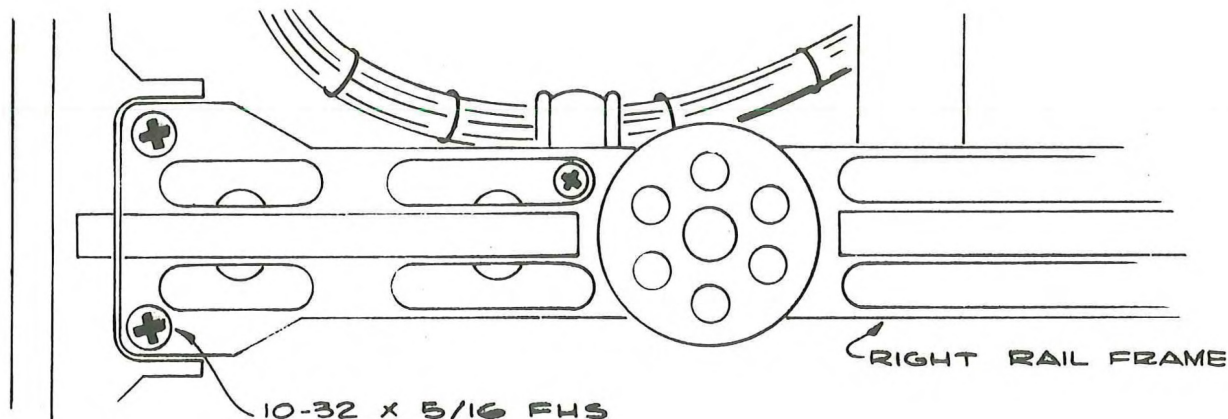

FIG. 2
- () 24. Remove the 10-32 x 5/16 FHS screws from each frame rail as indicated in Fig. 2.